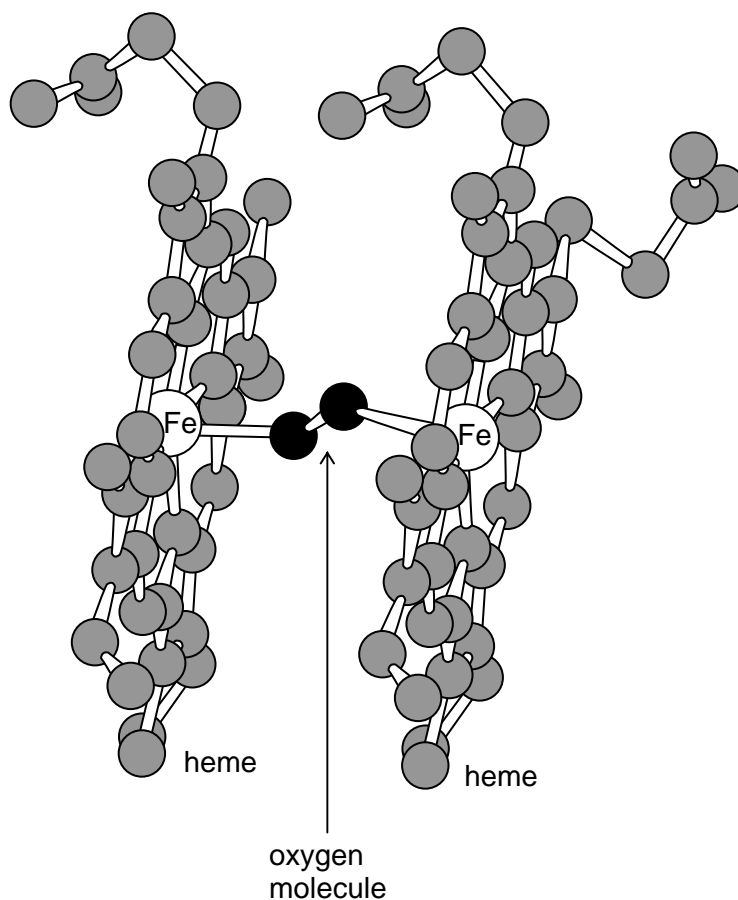
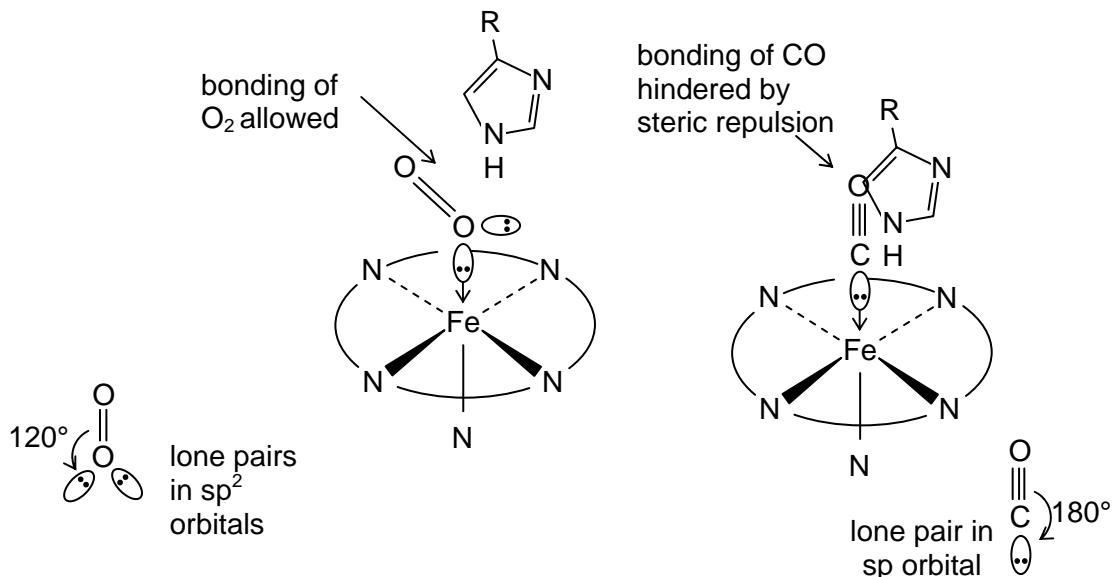

Figure 2.23 – two iron protoporphyrins with  $O_2$  sandwiched in between
Figure 2.26 – arrangement of molecules within the myoglobin complex
One problem that has fascinated chemists for some time is why, in the presence of oxygen, the  $Fe^{2+}$  ion does **not** become oxidised to  $Fe^{3+}$ . If iron(II) protoporphyrin is dissolved in water, and oxygen is bubbled through the solution, an almost immediate oxidation to  $Fe^{3+}$  occurs. A key intermediate in this oxidation is a complex of an oxygen molecule sandwiched between two haem groups (Figure 2.23).
This structure now explains the two observations described above. The fact that the haem group is on the inside of the molecule makes it impossible for two such groups to come together with an oxygen molecule bridge between them, as in Figure 2.23. In addition, the second histidine group, above the Fe2+ ion, forces the complexing molecule to bond with the Fe2+ ion at an angle. This favours O2, but hinders the bonding of CO (see Figure 2.26).